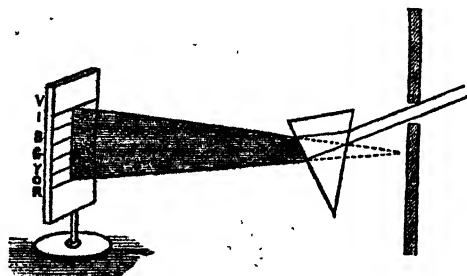

FIG. 19.
**SPECTRUM.**—When a beam of light is admitted into a darkened room, and passed through a prism, as in Fig. 19, it is not only changed in direction, but, if received upon a screen, is found to be divided into rays of seven different colours, violet, indigo, blue, green, yellow, orange, red. The violet is bent farthest from the original direction; the red least. White light may, therefore, be regarded as a combination of these seven differently-coloured rays. To show this, divide a circular disc of cardboard into seven compartments, the size of each corresponding with the extent of the colour in the spectrum. Paint each compartment its appropriate colour. On revolving the disc very rapidly on an axis through its centre, the paper appears white.